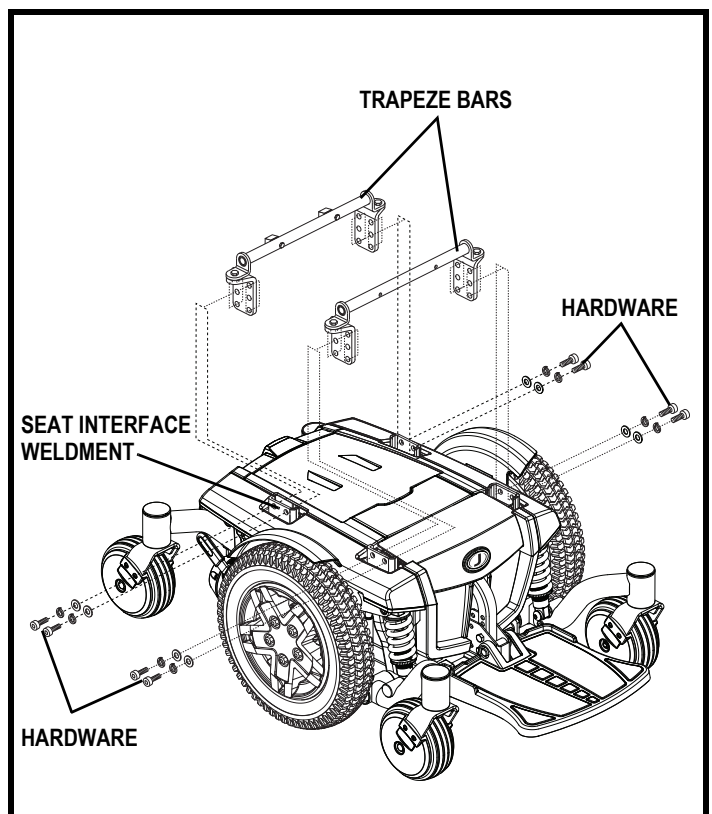

Figure 12. Seat Height/Angle Adjustment
- Remove the hardware that attaches the trapeze bars to the seat interface weldments. **See figure 12.**